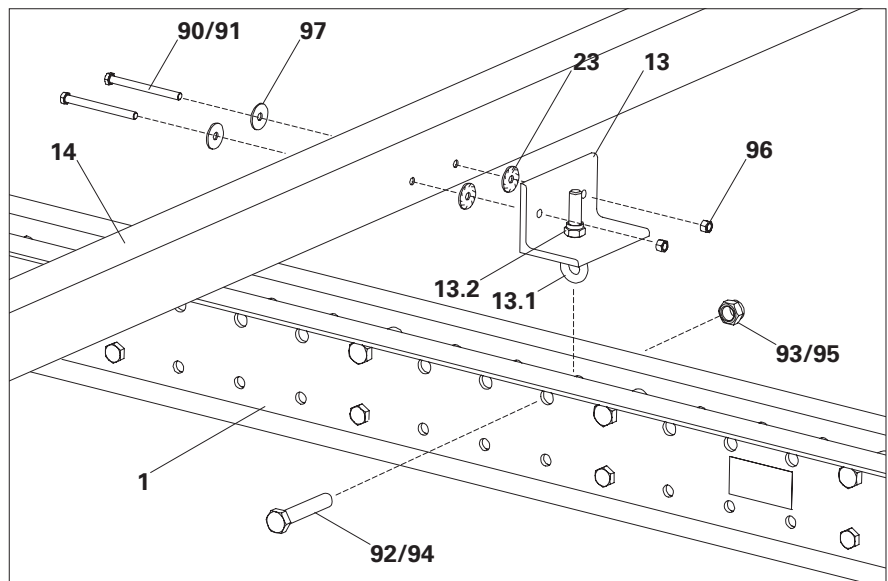

Fig. C3.01
(Fig. C3.01 + C3.02)
3. If statically required: hammer plate connectors (**23**) congruently into the holes of the enclosure beam, on the side of the squared timber adapter. Secure the plate connectors with wire pins. (Fig. C3.01)
(Fig. C3.01)